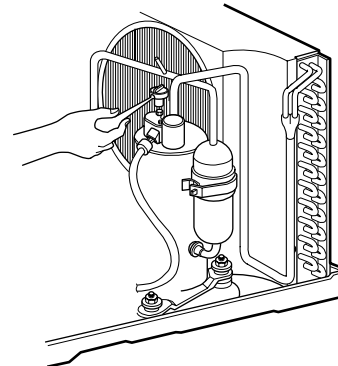

Figure 19
3. Remove the terminal cover. (See Figure 19)